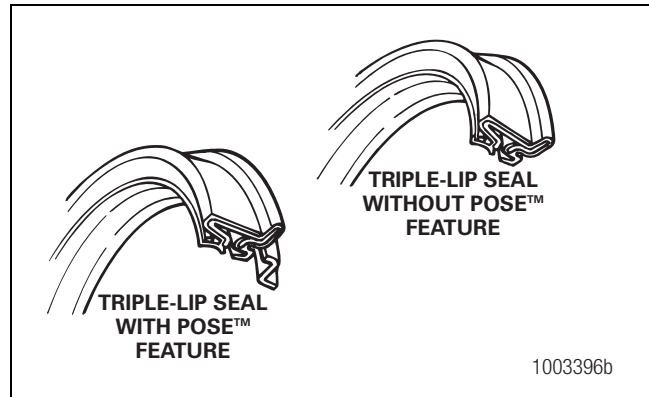

Figure 5.66
- **For unitized pinion seals:** Refer to the unitized pinion seal installation procedure in this section and then proceed to Step 4. Figure 5.66.
- **If you installed a unitized pinion seal on the output bearing cage:** Refer to the clean and inspect the yoke after installing a unitized pinion seal procedure in this section and then proceed to Step 7. Figure 5.66.